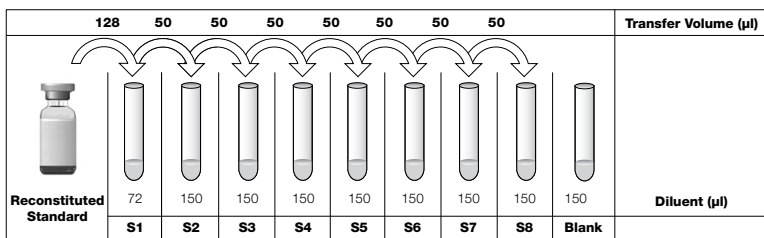

Fig. 3. Preparing a fourfold dilution series of cytokine standards.
2. Add the specified volume of standard diluent to each tube (Figures 3 and 4).
4. Continue with 1:4 (fourfold) serial dilutions from tube S2 to S8 as shown in Figure 3. Use reconstituted and diluted standards immediately. Do not freeze for future use.